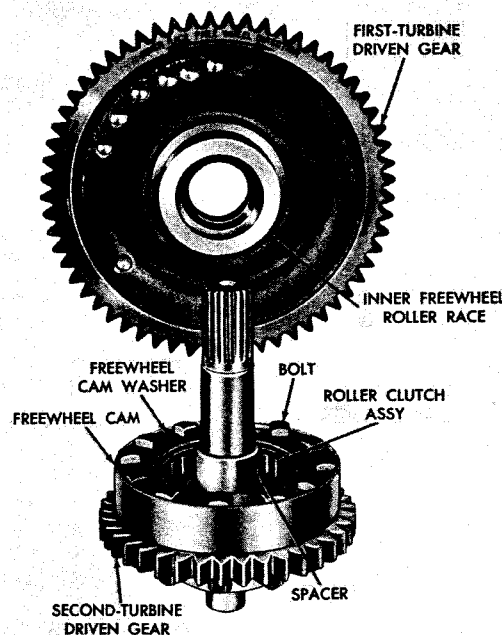

Fig. VI-10. Second-turbine driven gear and freewheel unit removed from first-turbine driven gear
(9) Install first-turbine driven gear 16 with integral inner freewheel race (fig. VI-10) on second-turbine driven gear 3 (B, foldout 4) and freewheel unit assembly. Rotate the first-turbine driven gear in the direction marked on the gear face to aid in picking up the freewheel rollers (fig. VI-10).
(10) Install wide spacer 17 (B, foldout 4) on second-turbine driven gear 3.
(11) Install ball bearing 18 on second-turbine driven gear 3 and press in place in first-turbine driven gear 16.
(12) Install narrow spacer 19 and press in place ball bearing 20 on second-turbine driven gear 3.